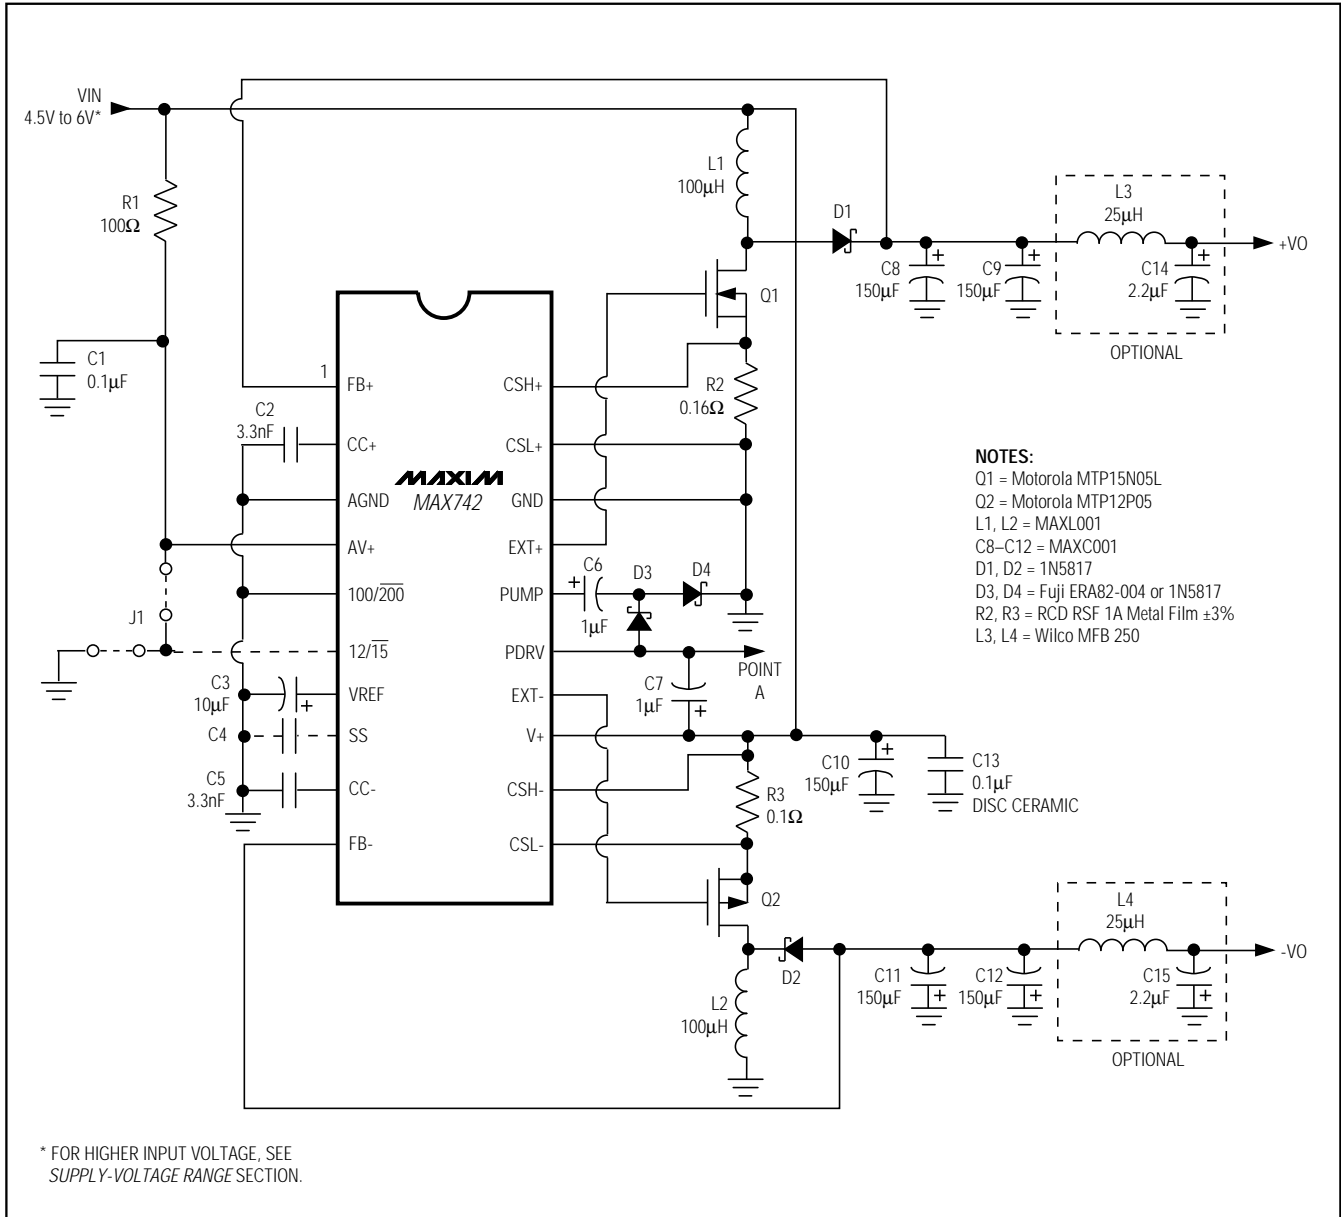

Figure 2. Standard 6W Application Circuit
(Circuit of Figure 2,  $V_+ = 5V$ ,  $100/200 = 12/15 = 0V$ ;  $T_A = T_{MIN}$  to  $T_{MAX}$ , unless otherwise noted.)
**Note 1:** Devices are 100% tested to these limits under 0mA to 100mA and to 125mA conditions using automatic test equipment. The ability to drive loads up to 1A is guaranteed by the current-limit threshold, output swing, and the output current source/sink tests. See Figures 2 and 3.
**Note 2:** Actual load capability of the circuit of Figure 2 is ±200mA in ±15V mode and ±250mA in ±12V mode. Load regulation is tested at lower limits due to test equipment limitations.
**Note 4:** Measured at Point A, circuit of Figure 2, with PDRV disconnected.
(Circuit of Figure 2,  $V_+ = 5V$ ,  $T_A = +25^\circ C$ , unless otherwise noted.)
(Circuit of Figure 2,  $I_{LOAD} = 100mA$ , unless otherwise noted.)
The MAX742 oscillator frequency is generated without external components and can be set at 100kHz or 200kHz by pin strapping. Operating the device at 100kHz results in lower supply current and improved efficiency, particularly with light loads. However, component stresses increase and noise becomes more difficult to filter. For a given inductor value, the lower operating frequency results in slightly higher peak currents in the inductor and switch transistor (see *Typical Operating Characteristics, Peak Inductor Current vs. Load Current* graph). When the lower frequency is used in conjunction with an LC-type output filter (optional components in Figure 2), larger component values are required for equivalent filtering.
The charge-pump (PUMP) output is a rail-to-rail square wave at half the oscillator frequency. The square wave drives an external diode-capacitor circuit to generate a negative DC voltage (Point A in Figure 2), which in turn biases the inverting-output drive stage via PDRV. The charge pump thus increases the gate-source voltage applied to the external P-channel FET. The low on-resistance resulting from increased gate drive ensures high efficiency and guarantees start-up under heavy loads. If a -5V to -8V supply is already available, it can be tied directly to PDRV and all of the charge-pump components removed. For input voltages greater than 8V, ground PDRV to prevent overvoltage. Observe PDRV absolute maximum ratings.
Figure 2's circuit has been tested at all extremes of line, load, and temperature. Refer to the *Electrical Characteristics* table for guaranteed in-circuit specifications. Successful use of this circuit requires no component calculations.
The 6W supply (Figure 2) generates ±200mA at ±15V, or ±250mA at ±12V. Output capability is increased to 10W or more by heatsinking the power FETs, using cores with higher current capability (such as Gowanda #050AT1003), and using higher filter capacitance.
Ripple is directly proportional to filter capacitor equivalent series resistance (ESR). In addition, about 250mV transient noise occurs at the LX switch transitions. A very short scope probe ground lead or a shielded enclosure is need for making accurate measurements of transient noise. Extra filtering, as shown in Figure 2, reduces both noise components.